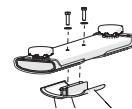

Figure 3
4. Attach the rear stabilizer to the frame using two bolts **1**, two flat washers **2** (Figure 3). Using a hex key **6**, tighten to 15.6 ft-lb (21.2 N-m).